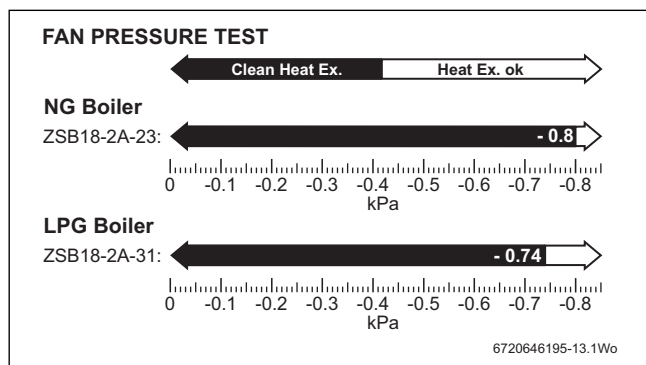

Fig. 68 Fan pressure readings
- The pressure will read negative, refer to the chart in figure 68.